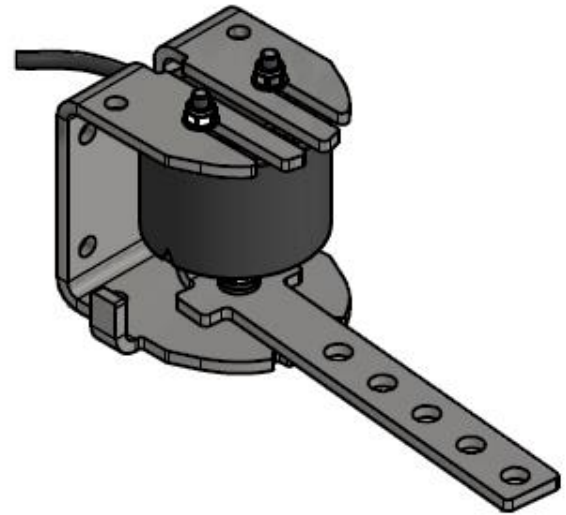

Figure 23 Angle sensor in bracket
**i** In a disc steering set, the angle sensor is already mounted in an angle sensor bracket (Figure 23).